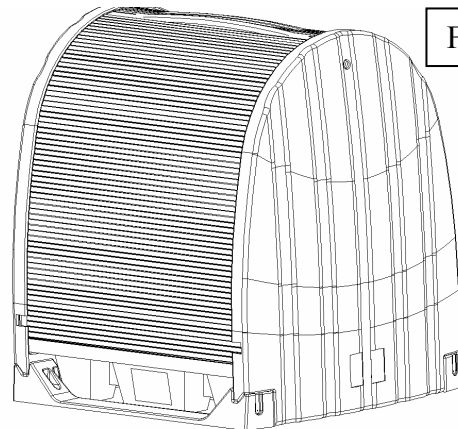

FIG.9
12) Ease Part (H), the tambour door with aluminum extrusion on one end, into groves provided and push door entirely in until it is securely inserted into the Hard Cover Side Walls. (See fig.9)